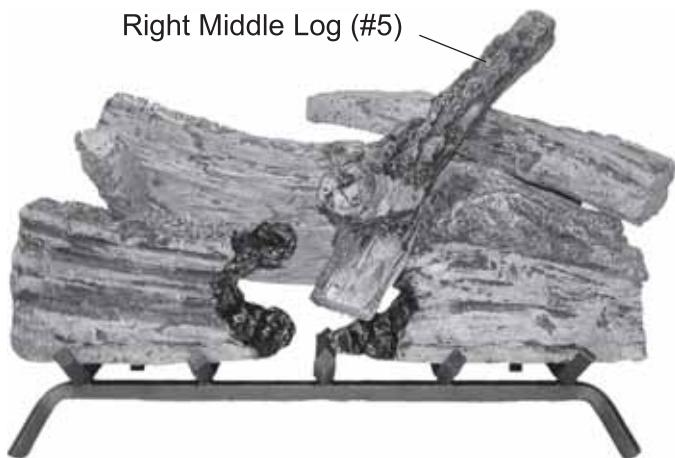

Figure 108 - Installing Right Middle Log (#5)
7. Place front of Right Middle Log #5 on top right of Log #1B. Rest back end of Log #5 on top right of Log #4. *See Figure 108.*